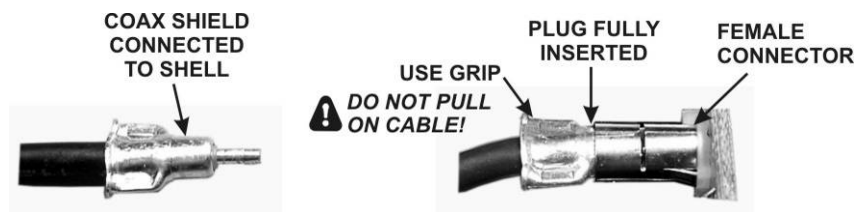

Figure 4. TMP Coaxial Connectors.
**⚠ In the following steps you will handle small TMP coaxial connectors. These are friction-fit connectors shown in Figure 4. Handle the connectors by the grips as shown. Do not pull on the coaxial cable.**